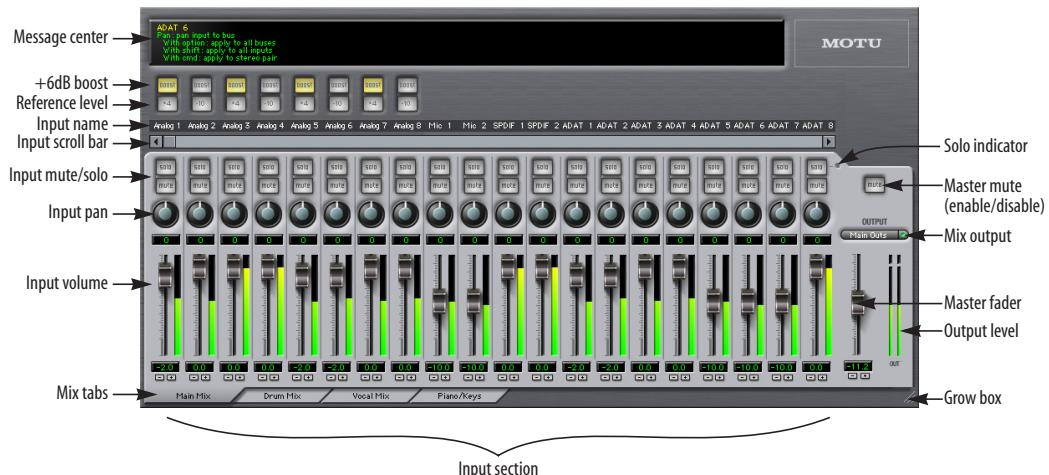

Figure 13-1: CueMix Console is a virtual mixer that gives you control over the 828mkII's on-board mixing features.
CueMix Console displays one mix at a time. To select which mix you are viewing, click its tab at the bottom of the window, as shown in Figure 13-1. The mix name appears in the tab. Double-click the name to change it.
To view more input faders at once, drag the grow box (Figure 13-1) to the right.
To view a mix, click its tab at the bottom of the window, as shown in Figure 13-1. The mix name appears in the tab.
The master mute button (Figure 13-1) temporarily disables (silences) the mix.
The master fader (Figure 13-1) controls the overall level of the mix (its volume on its stereo output).
To add an input to a mix, or remove it, click its MUTE button. To solo it, use its SOLO button. To toggle these buttons for a stereo pair, hold down the command key while clicking either channel. The Solo indicator LED (Figure 13-1) lights up when any input is soloed (including inputs that may currently be scrolled off-screen).
Use the input fader and pan knob (Figure 13-1) to adjust these settings for the input in the mix. Again, all settings within the gray-shaded channel strip area belong to the mix currently being viewed. Note that an input can have different settings in different mixes.
- 1 Select the source mix (Figure 13-1) and choose Copy from the file menu (or press command-C).
The reference level and +6dB boost settings at the very top of the CueMix Console window (Figure 13-1) affect each input globally, across all mixes and for audio being routed to the computer. For example, if you add 6dB of boost, your host software will receive the boost for that input as well.
This setting (Figure 13-1) adds 6 dB of gain to the input signal. This setting is applied globally for the input.